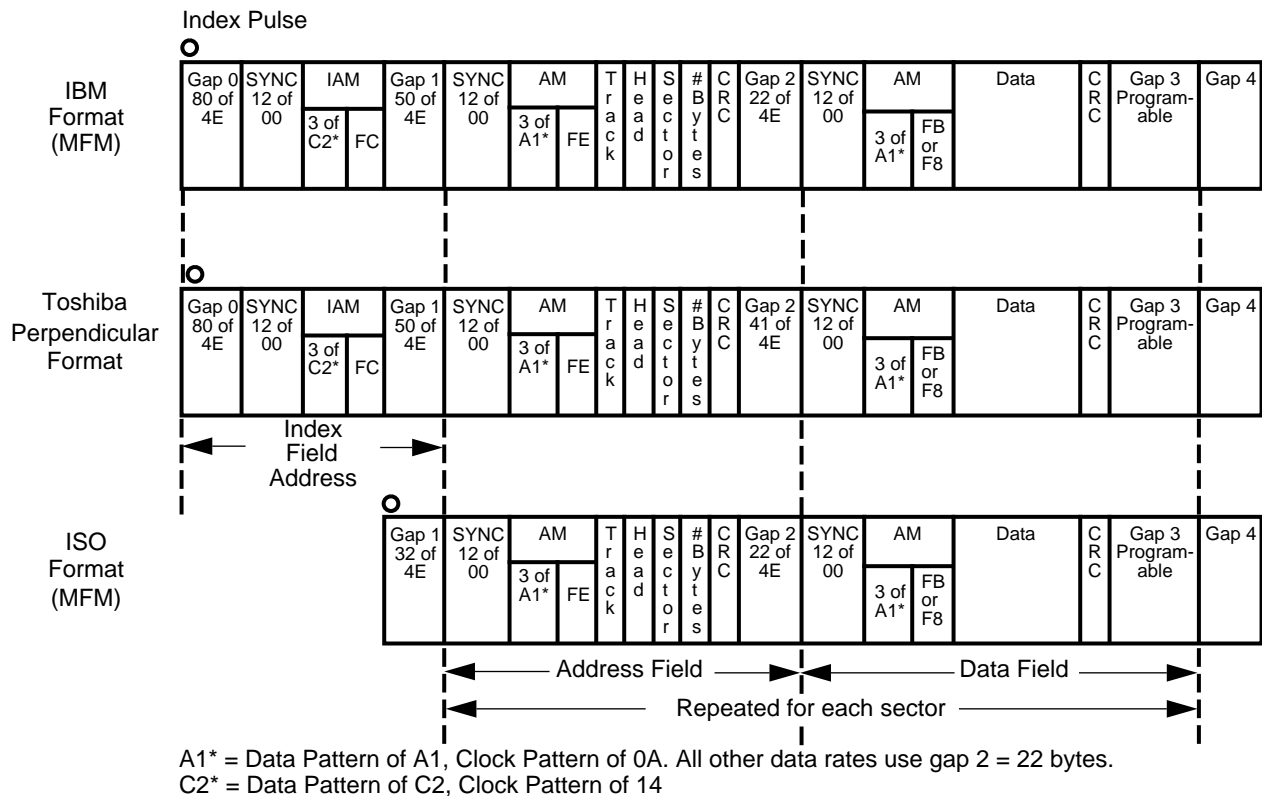

FIGURE 5-20. IBM, Perpendicular, and ISO Formats Supported by the FORMAT TRACK Command
After a pulse from the INDEX signal is detected, data patterns are written on the disk including all gaps, Address Marks (AMs), address fields and data fields. See Figure 5-20.
b. Gap 3 is the suggested value for the programmable GAP3 that is used in the FORMAT TRACK command and is illustrated in Figure 5-20.
Figure 5-20 illustrates the track format for each of the formats recognized by the FORMAT TRACK command.
- b. Gap 3 is the suggested value for use in the FORMAT TRACK command. This is the programmable Gap 3 illustrated in Figure 5-20.